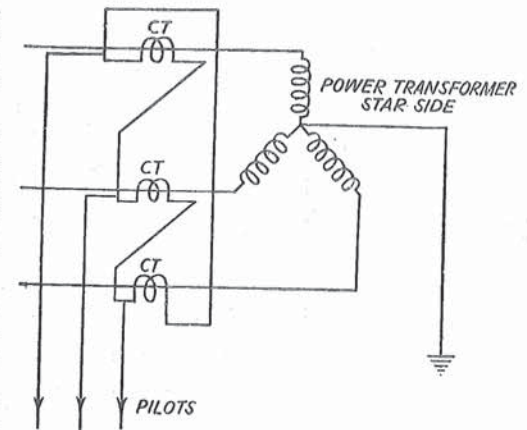
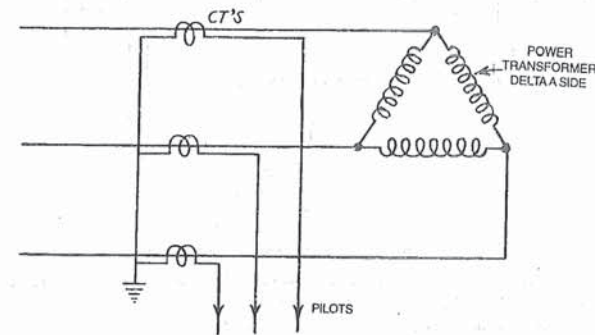

Fig. 32.6. Connection of CT secondaries on star side. (Contd.)
Fig. 32.7. Connections of CT secondaries on delta side.
(b) **CT connections.** Fig. 32.6 gives the connections of CT's for a star side and Fig 32.7 shows connections of a delta side.
- Secondaries of CT's on star connected side of power transformer are connected in delta (Fig. 32.6).
- Secondaries of CT's connected on delta side of power transformer are connected in star (Fig. 32.7). With such arrangement, the phase displacement between currents gets cancelled with the phase displacement due to star/delta connections of CT secondaries, and the current fed to pilot wires from both sides are in phase during normal conditions.